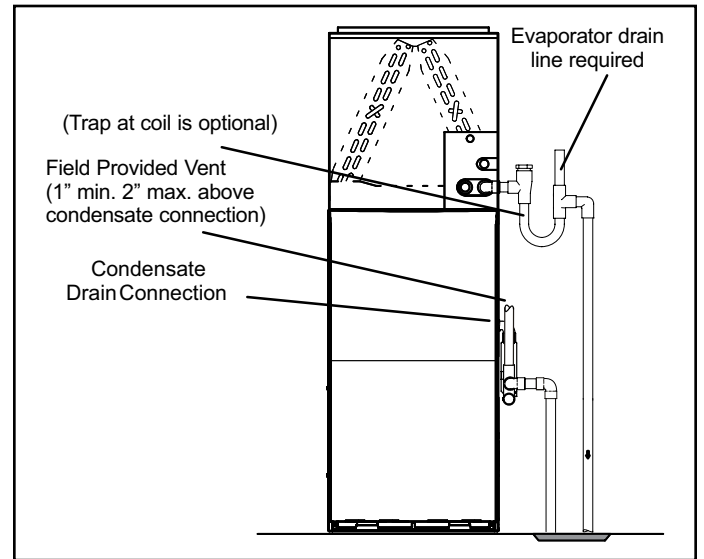
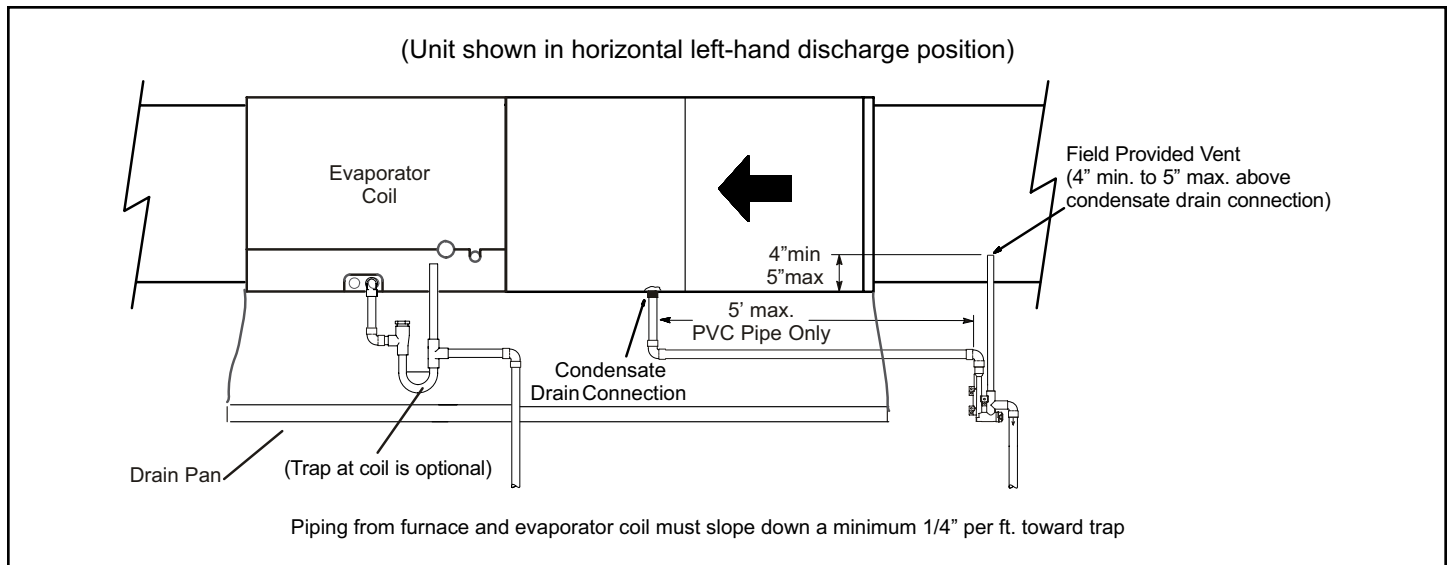
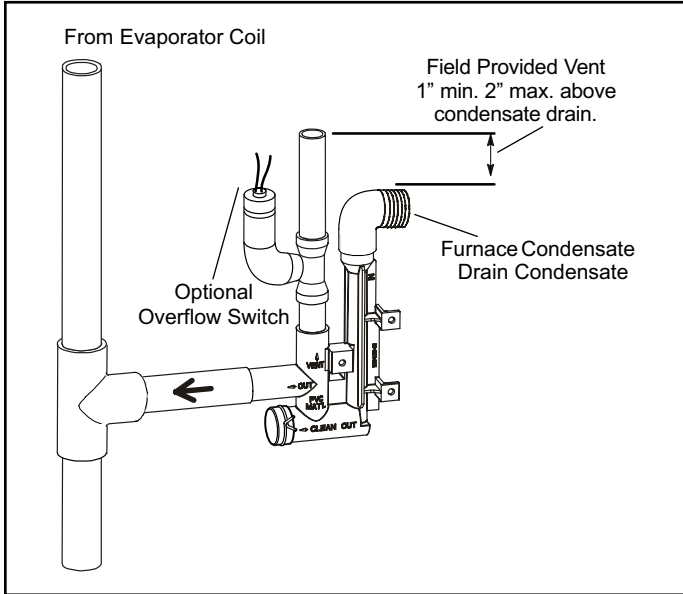

Figure 36. Furnace with Evaporator Coil Using a Separate Drain
Figure 37. Furnace with Evaporator Coil Using a Separate Drain
Figure 38. Condensate Trap With Optional Overflow Switch
5. Figure 36 and Figure 37 show the furnace and evaporator coil using a separate drain. If necessary the condensate line from the furnace and evaporator coil can drain together. See Figure 38 through Figure 40.